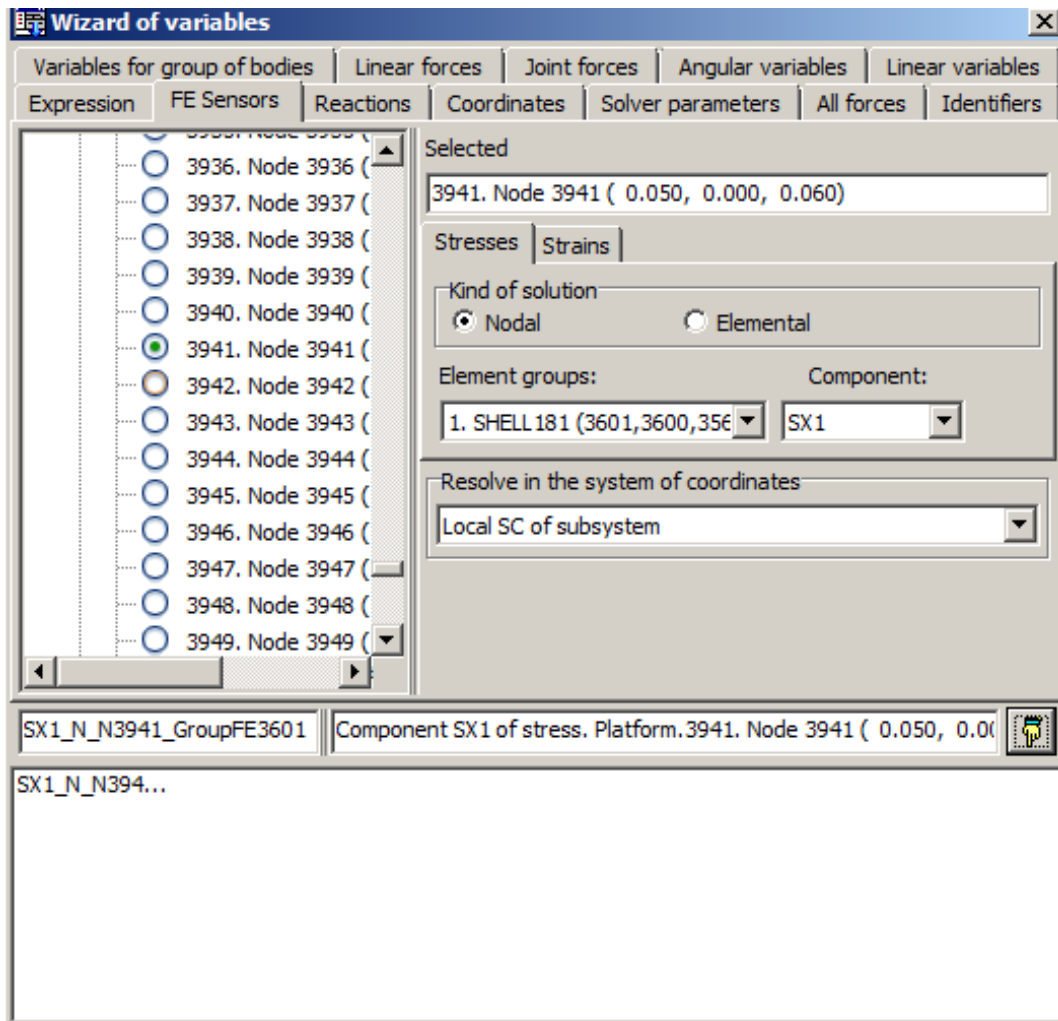

Figure 2.60.
6. Select **Wizard of variables** and create variable for calculation stress component SX1 of node 3941 with approximate coordinates (0.05; 0; 0.06), see Figure 2.60.